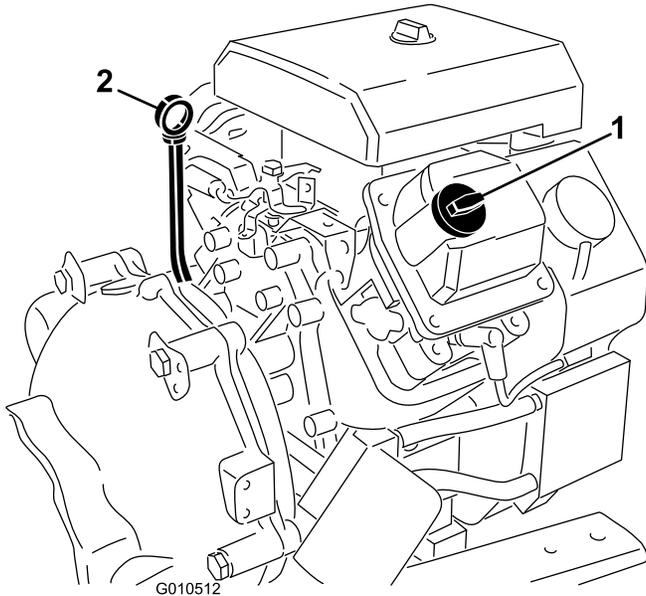

Figure 12
2. Remove the dipstick (Figure 12) and wipe it with a clean rag.
5. If the oil level is low, remove the filler cap (Figure 12) and add enough oil to raise the level to the Full mark on the dipstick.